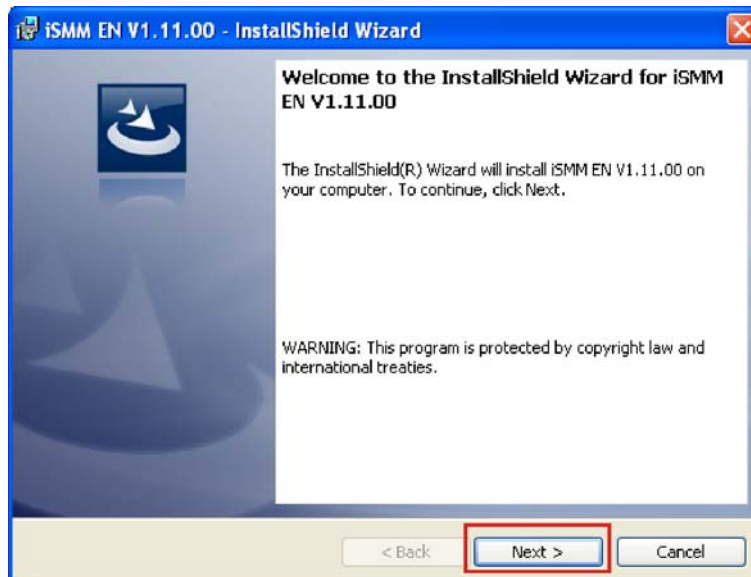

Figure 6-31: iSMM InstallShield Welcome Screen
Step 7: The **iSMM InstallShield Welcome Screen** appears. (Figure 6-31)